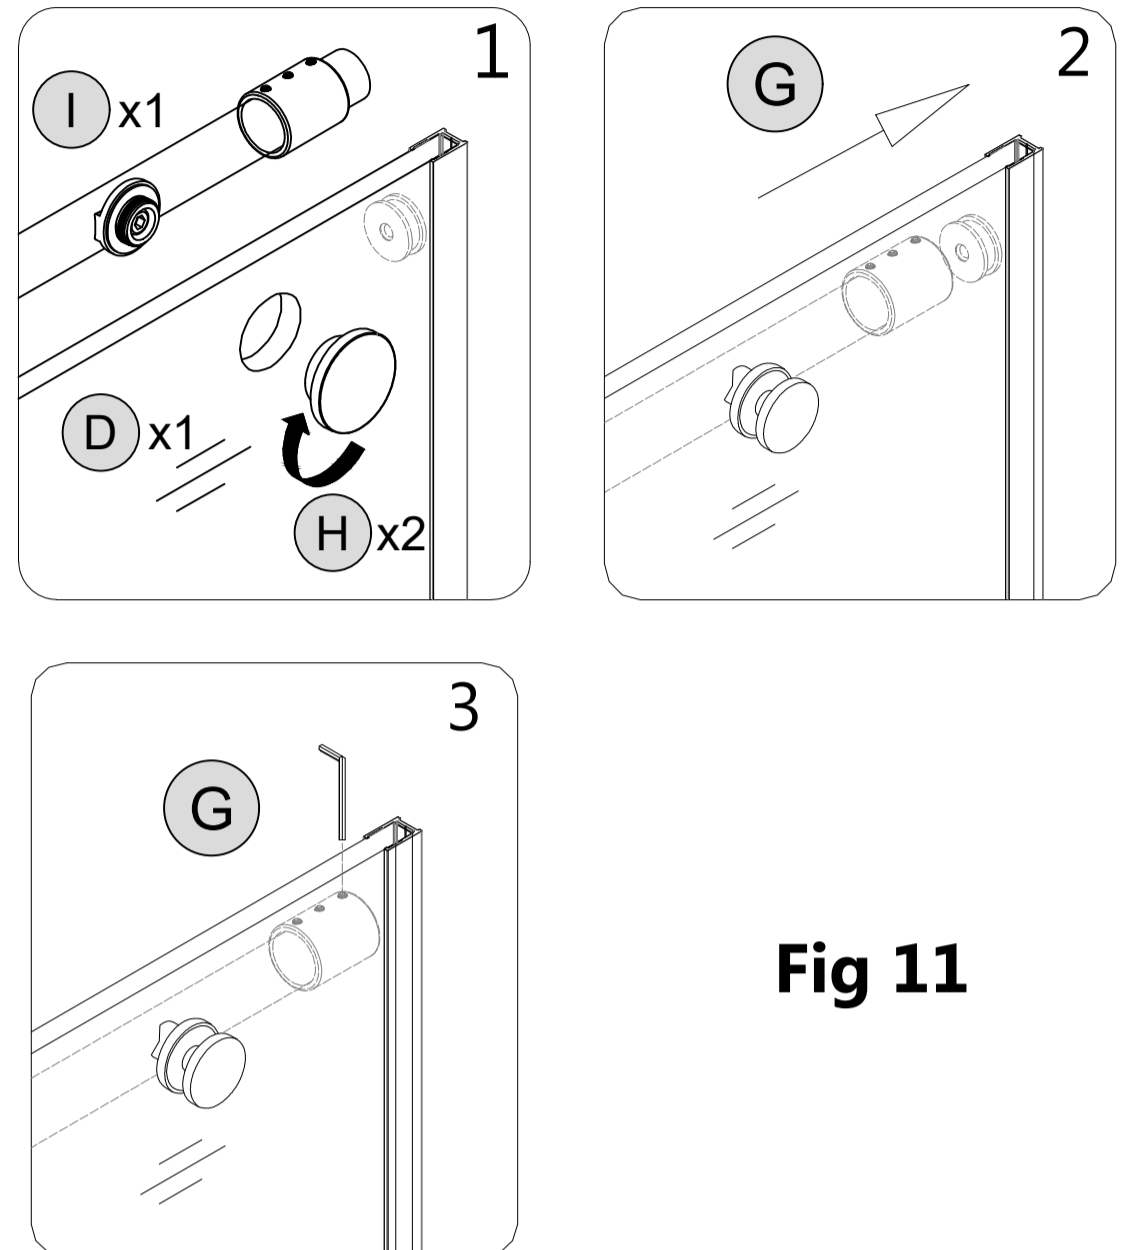

Fig 11
- 11** Re-attach the **Guide Rail (I)** to the **Stationary Glass (D)** and attach the **Guide Rail Brackets (G)**. (Fig 11)